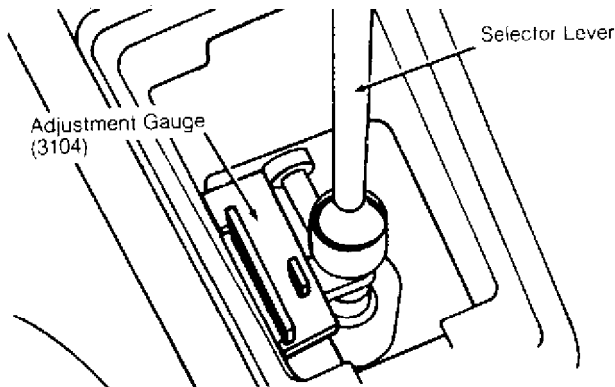

Fig. 7: Adjustment Gauge Location
2) Remove gearshift knob and boot. Position Adjustment Gauge (3104) over shift rod. See Fig. 7. With transaxle in Neutral, align shift rod with selector lever. Tighten shifter rod clamp to 19 ft.